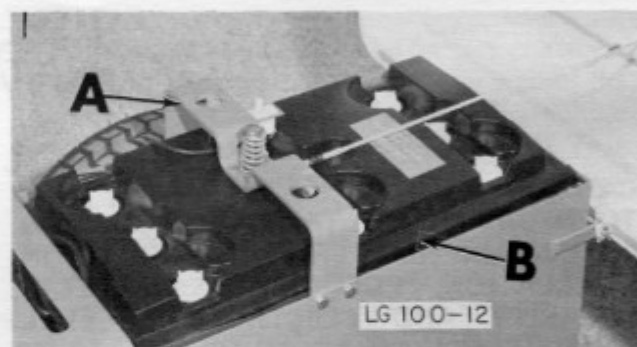

Figure 30
- Remount the cross-bar "A", Fig. 30 over the rear compartment so the seat switch is towards the back of the tractor.
- Place the hold-down angle clamps "B" along the sides of the battery cover, outside the top edges of the bag so the bag is between the cover and the clamps, Fig. 30. Notice there is a left and right clamp.